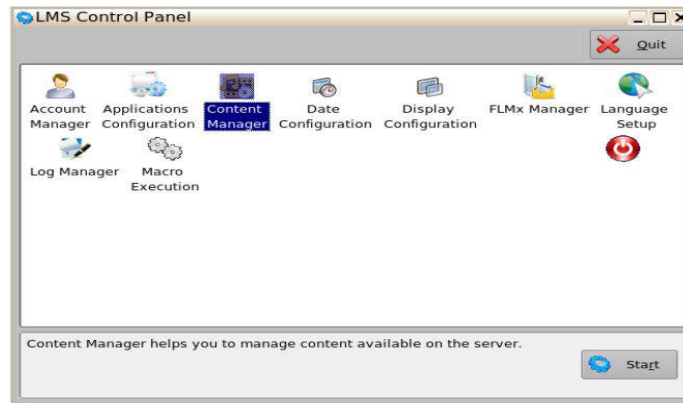

Figure 104: Control Panel Window
- The following window will appear (Figure 104):
- To edit, delete, or create a user account, click on the Account Manager icon on the Control Panel tab (Figure 104).